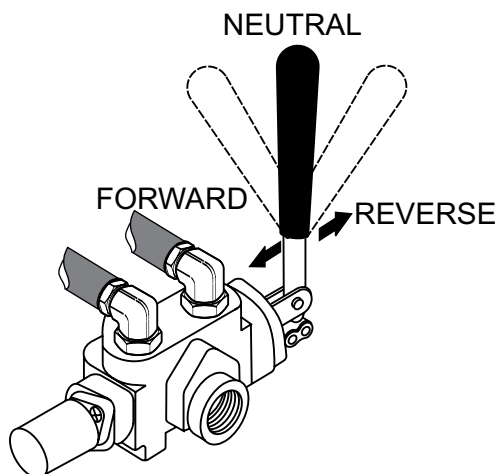

Figure 10. Travel Control Lever
- Place the travel control lever (Figure 10) in the **NEUTRAL** position.